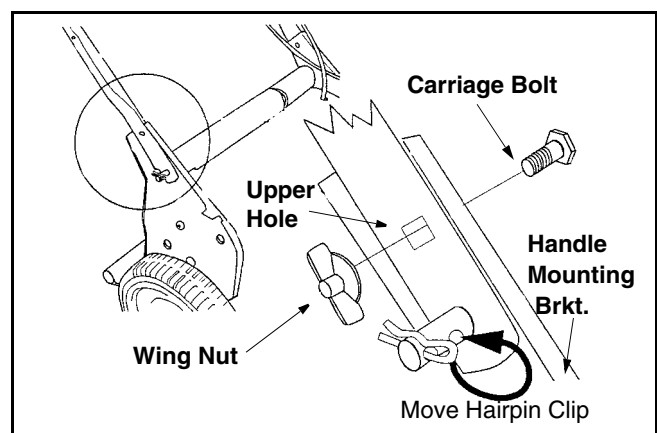

Figure 3
- Remove the hairpin clips from the outer hole in the weld pins on the handle bracket assemblies. Using a pair of pliers, squeeze one leg of the lower handle against the handle bracket assemblies. Insert the hairpin clip into the inner hole on the weld pin. Repeat on other side. See Figure 3.
- After you have moved the hairpin clip, install the carriage bolt, (carriage bolt must go to the inside of handle) included in the hardware pack, in the upper hole on the handle mounting bracket. Secure with one plastic wing nut, also included in the hardware pack. See Figure 3. Repeat process on other side.